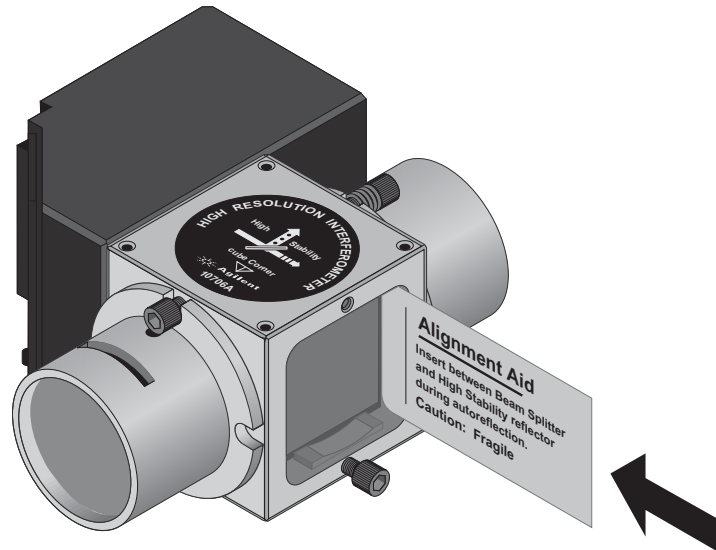

Figure 161 Using the Agilent 10706-60202 Alignment Aid
Figure 161 shows how the aid is positioned between the beam splitter and the high stability adapter during alignment.
- 12 Insert the Alignment Aid (Agilent Part Number 10706-60202) between the now-exposed glass beam splitter and the reference reflector (the one with the four adjustment cap screws and two springs). See Figure 161. This will allow the reference beam to autoreflect back toward the small aperture on the laser head.